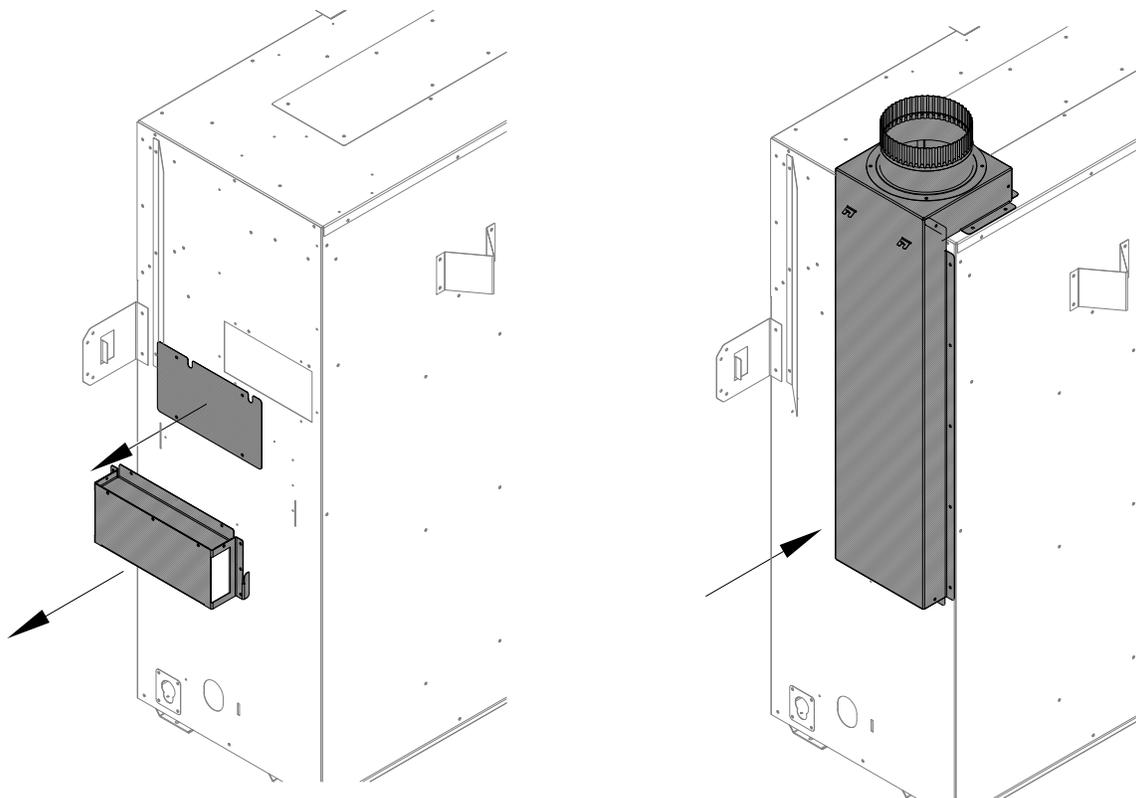

Figure 4.4 - HTK Air Chute Installation
1. Remove the HTK cover plate on the side of the appliance and save these (4) sheet metal screws for later use.
2. Remove the lifting handle and save these (9) sheet metal screws for later use.
3. Install the HTK air chute (Part # HTK-NTL) on the appliance as shown in Figure 4.4. Use the sheet metal screws saved from the previous step and the ones provided with the air chute for installation.